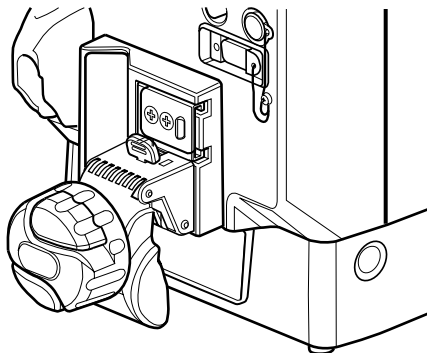

Figure 3-2 Headboard (horizontal) Mount
1. Check to see if the clamp bracket is positioned for headboard mounting or other horizontal applications as in Figure 3-2.
3. Rotate the clamp counter-clockwise 90° (C in Figure 3-3) until the open end of the clamp is towards the floor (see clamp in Figure 3-2).
4. Slide the clamp up onto the plate until you hear the clamp lock into place (D in Figure 3-3). The clamp should now be positioned as in Figure 3-2. Test to make sure it is secure.